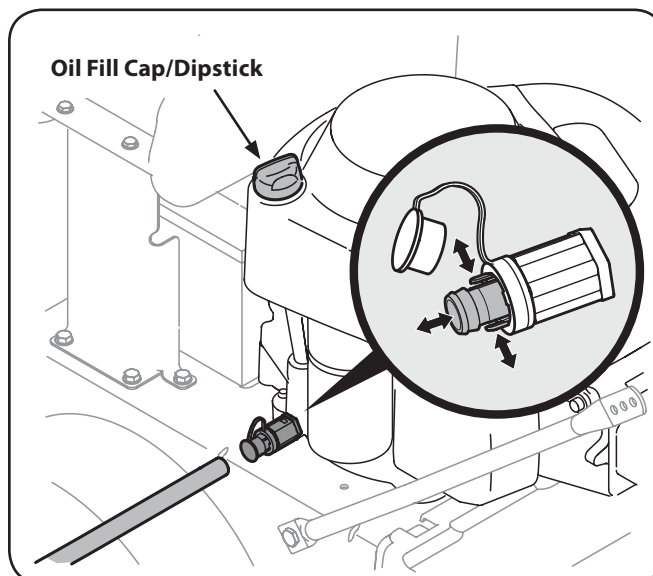

Figure 6-2
4. Pop open the protective cap on the end of the oil drain valve to expose the drain port. See Fig 6-2.
7. Pinch the tabs on the oil drain valve, then pull outward to begin draining oil. See Fig 6-2.